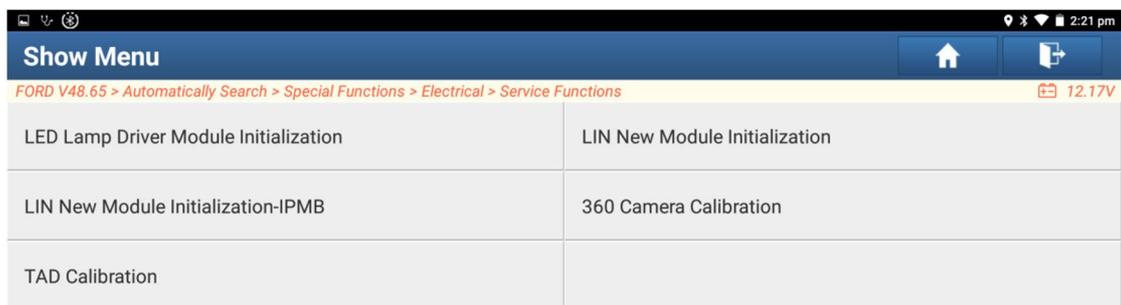

Figure 7
6. Select [360 Camera Calibration] (Figure 7).